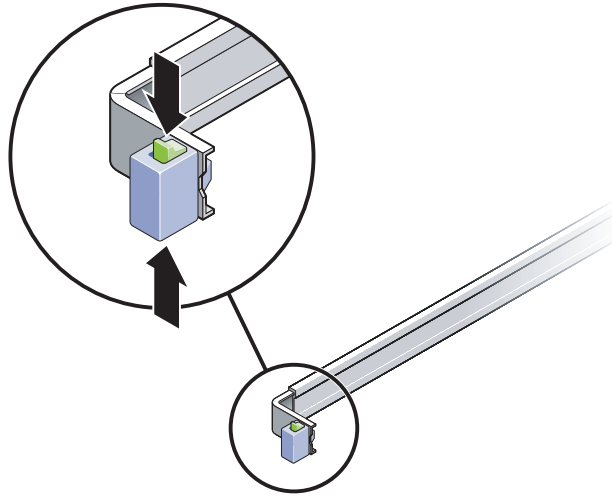

FIGURE 3-34 Unlocking the Slide Rail Assembly
2. Unlock the slide lock buttons (FIGURE 3-34) at the right and lefts sides of the server chassis, and slowly pull the server out of the rack until the slide rails reach their stops.